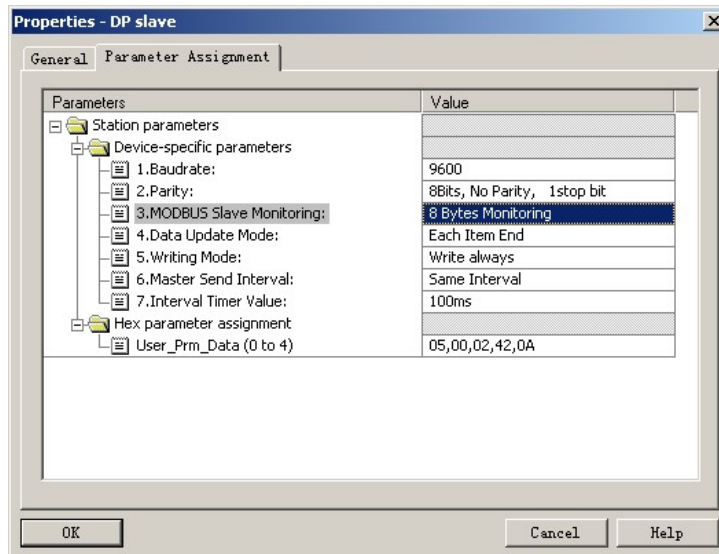

Figure 37 Configure "3.MODBUS Slave Monitoring" device user parameters
a) Configure "3.MODBUS Slave Monitoring" device user parameters, as shown in Figure 37:
As shown in Figure 37, if you want to use the xxx byte Modbus slave monitoring module, you must configure the corresponding Modbus slave monitoring parameters in the device user parameters. This example is based on the previous 6 examples. If the user parameters of the device are configured to "8 Bytes Monitoring", the corresponding "8Bytes MODBUS Slaves Status" module should be used.